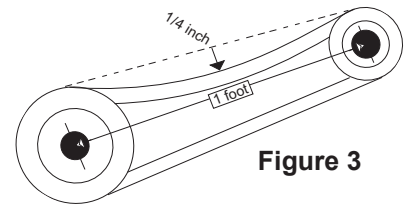

Figure 3
2. Slide motor plate back until proper tension is reached. For proper tension, a deflection of approximately 1/4" per foot of center distance should be obtained by firmly pressing the belt. Refer to *Figure 3*.